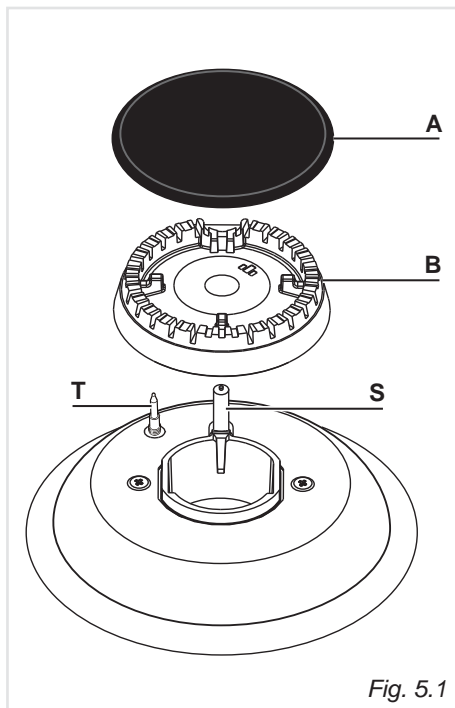

Fig. 5.1
- Check that the probe "T" (figs. 5.1, 5.3, 5.4) next to each burner is always clean to ensure correct operation of the safety valves.
- Check that the electrode "S" (figs. 5.1, 5.3, 5.4) next to each burner is always clean to ensure trouble-free sparking.
It is very important to check that the burner flame spreader "B" and the cap "A" have been correctly positioned (see figs. 5.1 and 5.2). Failure to do so can cause serious problems.